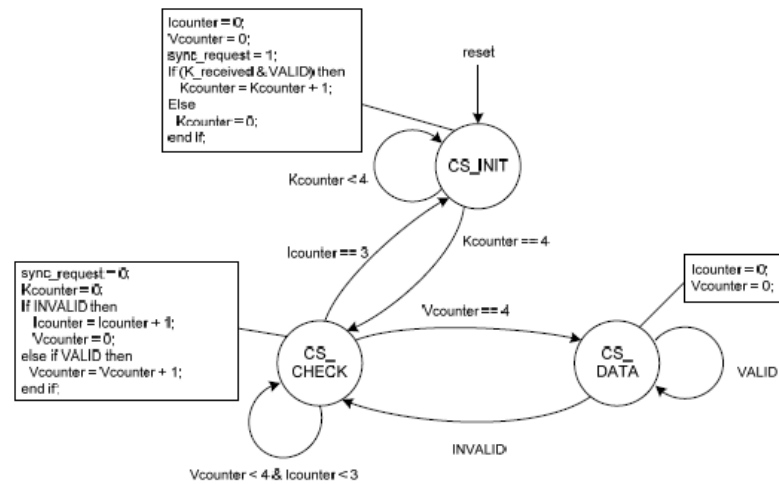

Figure 44 — Receiver state machine for code group synchronization
- Figure 44 – Receiver State Machine for Code Group Synchronization